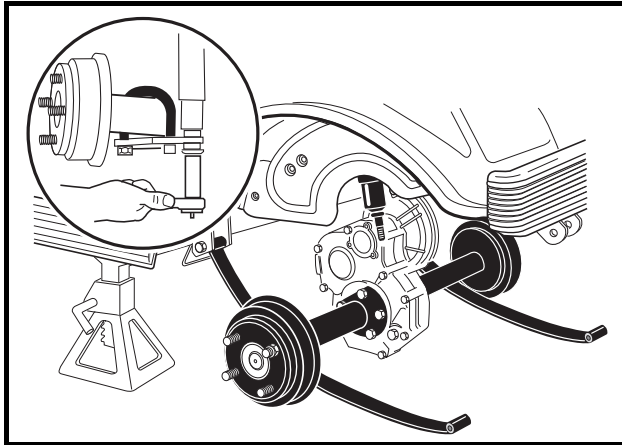

Figure 16b-3 Lower Axle
9. Remove the bolts that mount the motor to the transaxle (**Figure 16b-24, Page 16b-16**). See following **CAUTION**.